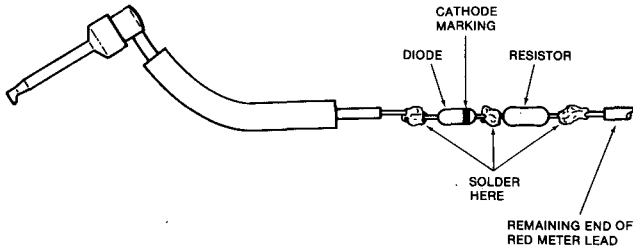

Fig. B-5. Assembly, step 2.
2. Solder diode, resistor, and remaining end of meter lead together as shown in Fig. B-5. Note proper polarity of diode.